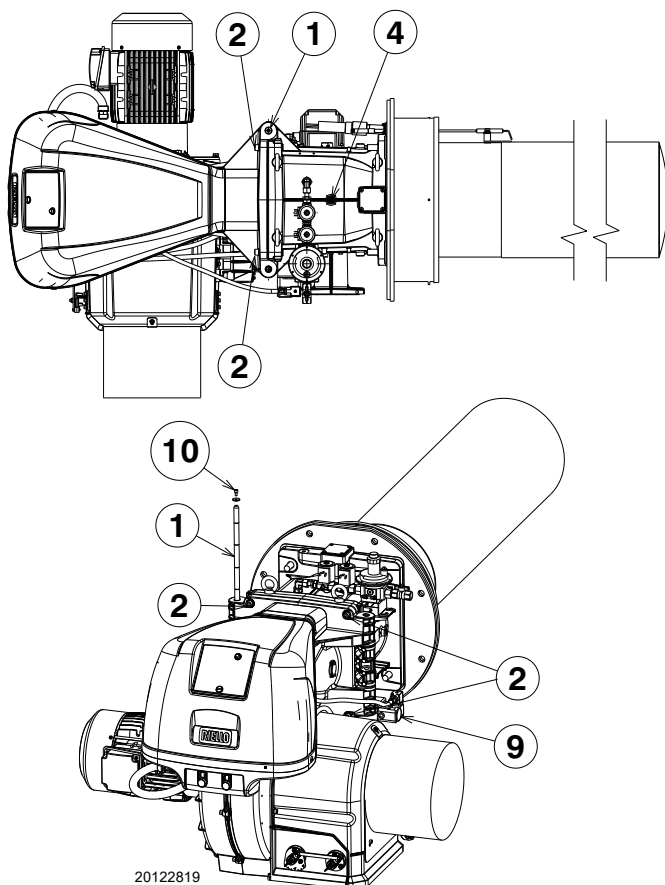

Fig. 20
The burner leaves the factory set for opening to the left, therefore maintaining the pin 1)(Fig. 20) in the housing.
- A disconnect the plug/socket 9)(Fig. 20) of the maximum gas pressure switch;
To open the burner from the opposite side, before removing the pin 1)(Fig. 20), make sure that the 4 screws 2) are tight.
- H Disconnect the socket 9)(Fig. 20) of the maximum gas pressure switch, then proceed as described above at point C).